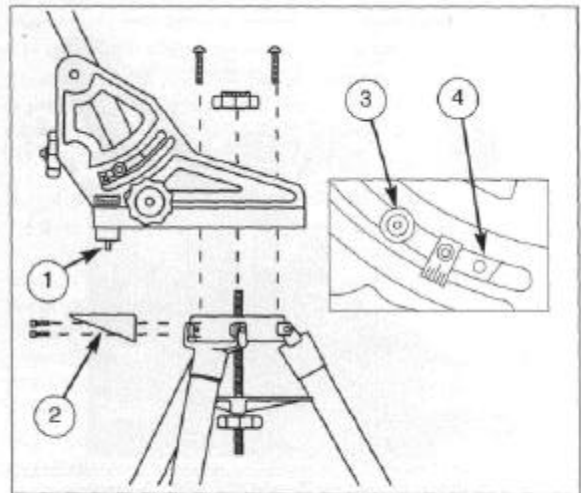

Fig. 11: Mounting Superwedge. (1) Azimuth Thrust Bar Pin; (2) Tangent Arm; (3) Lower Tilt Plate Locking Screws; (4) Lower Mounting Holes.
- Locate the two 8-32 nylon set screws on the rim of the tripod head and remove them. Attach the tangent arm to the tripod using the supplied 8-32 X 1/2" socket cap screws. (See Fig. 11 a., below.)
Holding the threaded rod in position, place the Superwedge on top of the tripod head so that the threaded stud extending from the tripod head passes through the center hole on the wedge floor. Make sure the pin extending from the bottom of the azimuth thrust bar is positioned in the slot on the tangent arm (see Fig. 11 a., above).
The lower tilt plate locking screws (3, Fig. 11) are installed in the factory to allow the tilt plate to be adjusted for any latitude greater than 25 degrees and less than 55 degrees. If viewing in a region with a latitude greater than 55 degrees, move the locking bolts to the lower mounting holes (4, Fig. 11).